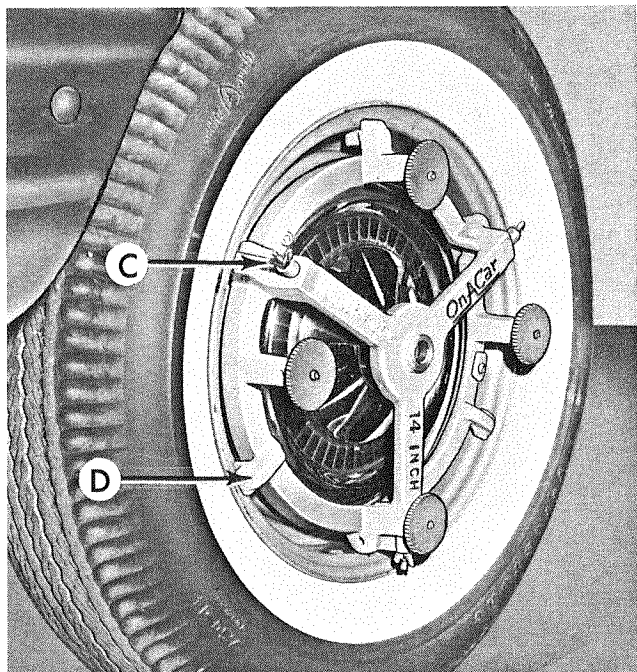

Fig. 2
4. Back off the three wing nuts, C Figure 2, to fully retract the mounting points.
ing stop, D Figure 2, contacts wheel. Adapter is self centering. If valve stem interferes, move adapter or valve to either side. **Be sure stops are all firmly against wheel.**